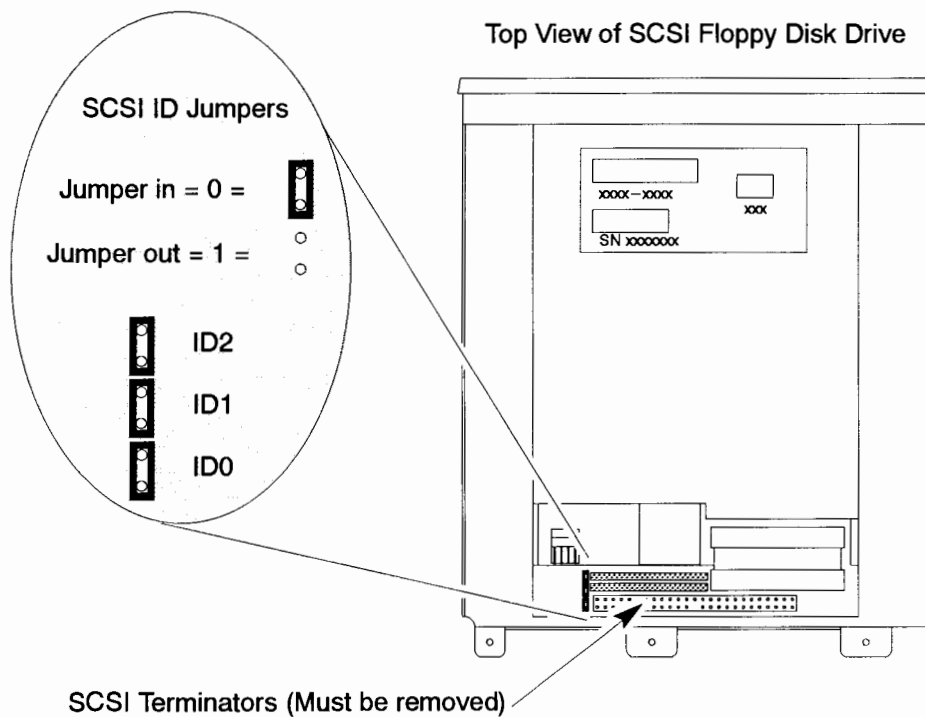
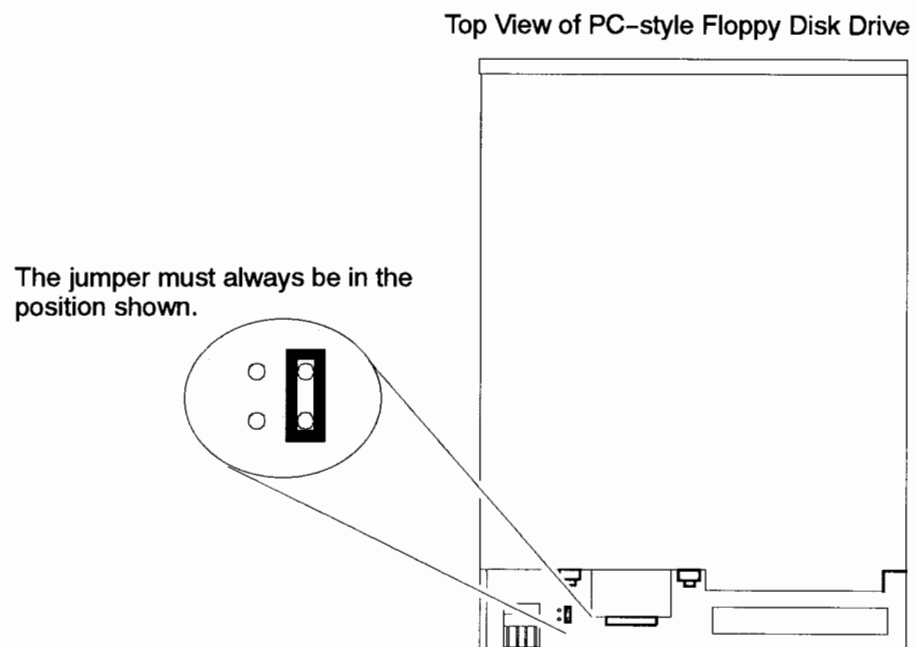

Figure B-5. Floppy Drive SCSI ID Jumpers
Figure B-6. Model 715/64, 715/80, and 715/100 Floppy Drive Jumper
1. Locate the jumper(s) on the top of the floppy drive. Refer to Figure B-5 for the SCSI ID jumpers on a Model 715/33, 715/50, or 715/75 floppy drive. Refer to Figure B-6 for the location of the jumper on a Model 715/64, 715/80, or 715/100 floppy drive.